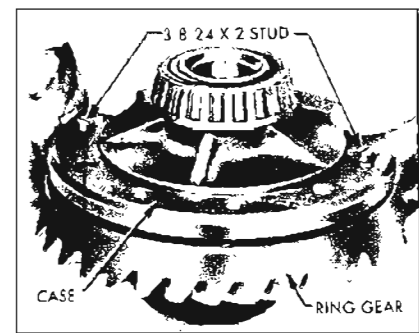

Figure 6-29—Installing Ring Gear On Differential Case
5. After making certain that mating surfaces of case and ring gear are clean and free of burrs, thread two 3/8-24 x 2 studs into opposite sides of ring gear, then install ring gear on case. See Figure 6-29. Install ring gear attaching bolts just snug. Torque bolts alternately in progressive stages to 50-60 ft. lbs.